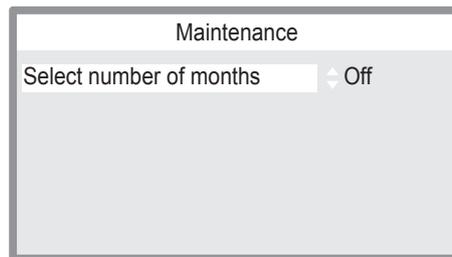

Figure 4.21
- 4 Press key "A" or "B" (Figure 4.17) to select the desired menu from those available (Figure 4.21).